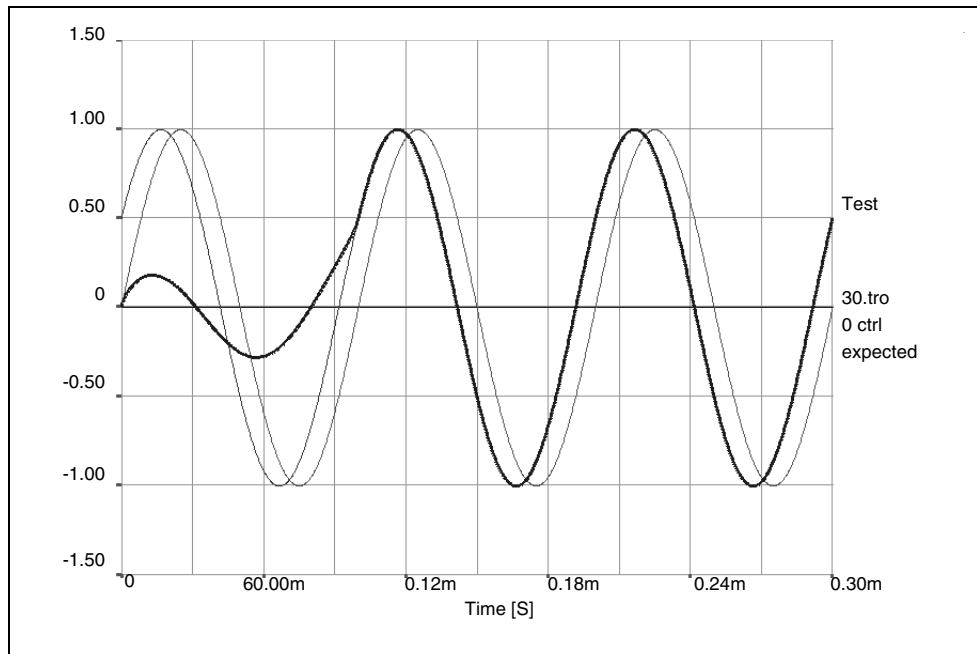

Figure 165 Transient Response of the 30 Degree Phase Shift Filter
- HSPICE or HSPICE RF performs circular convolution, when G-element `ACCURACY = 0` or `1` (see Figure 165 on page 707).